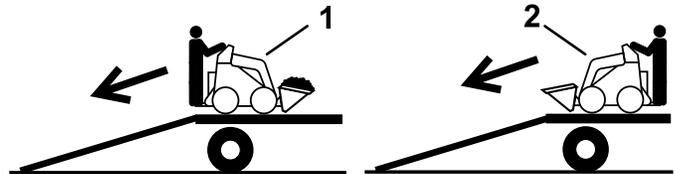

Figure 9
2. Unload the machine from the trailer with the heavy end up the ramp, carrying loads low (Figure 9).